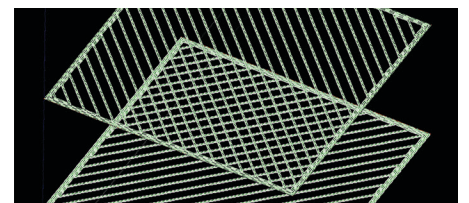

Figure 46: Sparse fill alternates raster direction for each layer.
- Uni-directional rasters on each layer (Figure 46)